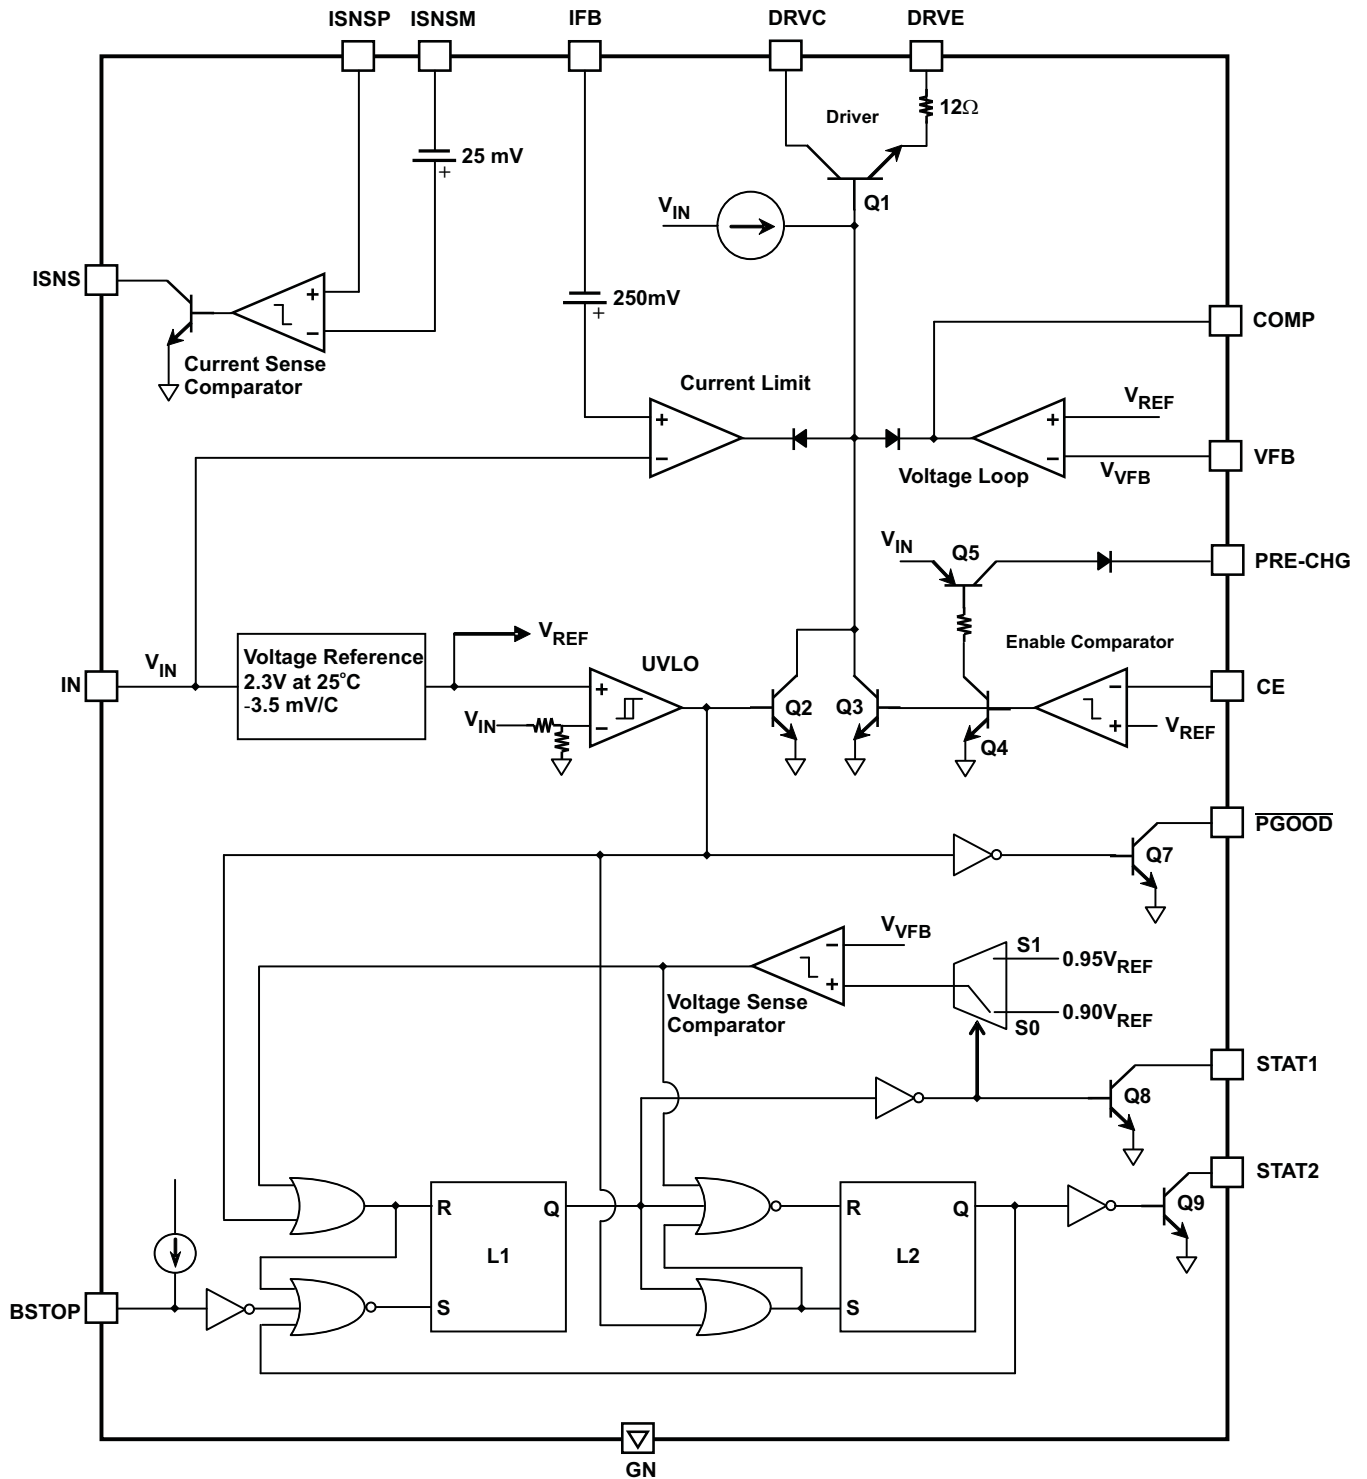
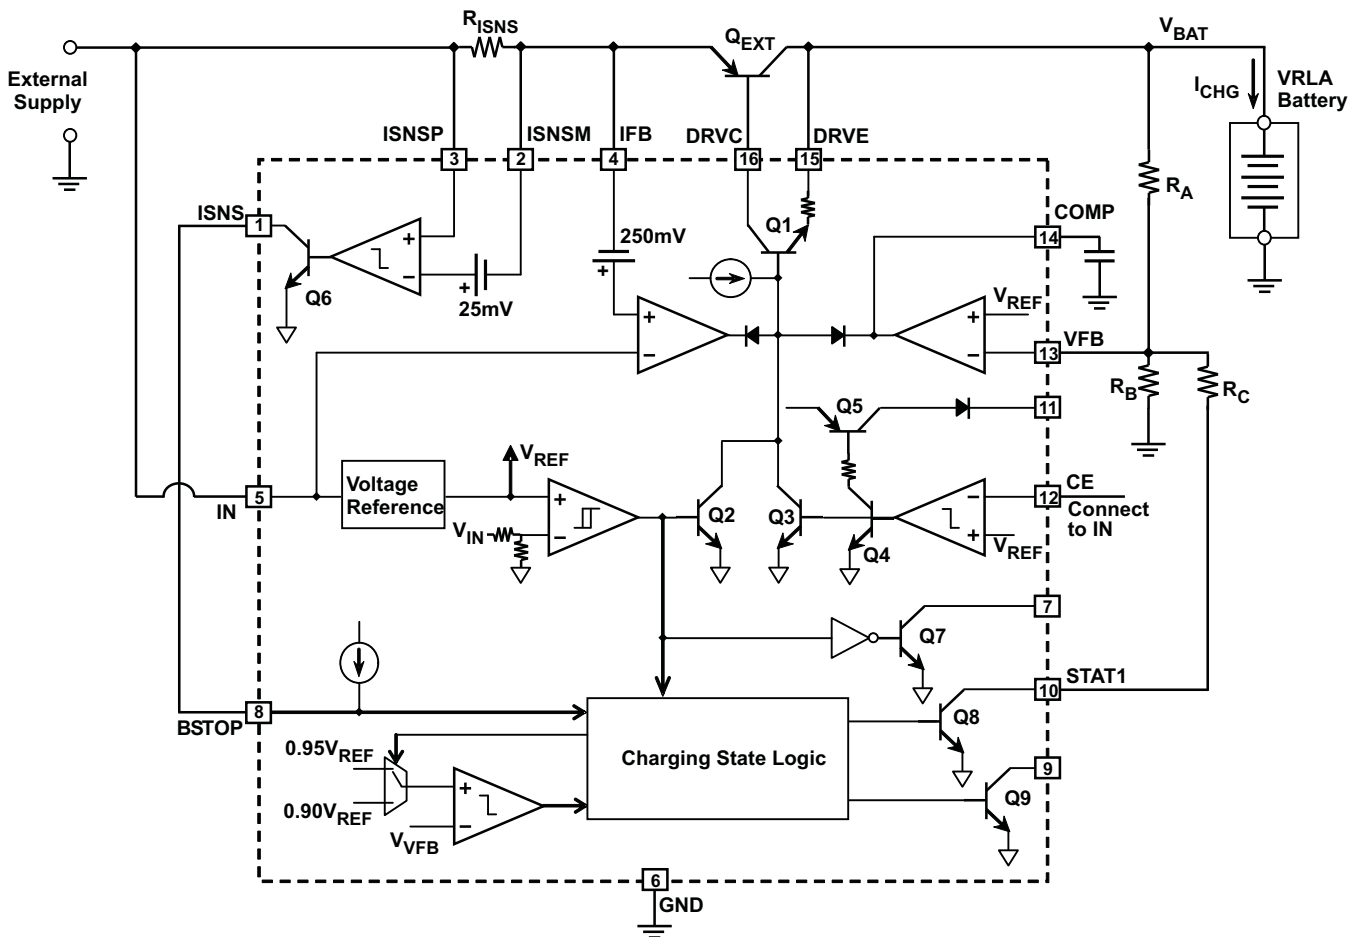
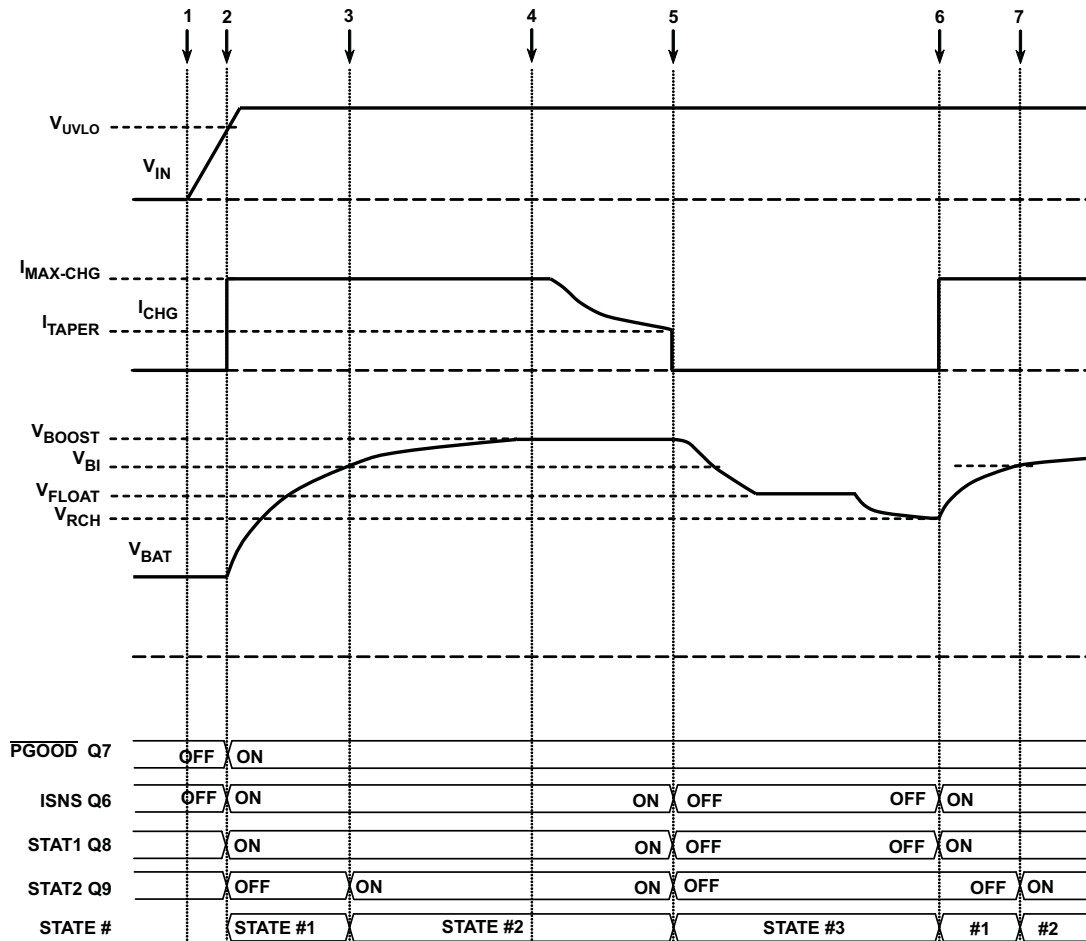

Figure 2. Simplified Block Diagram
Figure 4.
Figure 5.
Only an external pass transistor and minimum number of external passive components are required along with the IC to implement a charger for sealed lead-acid batteries. The IC's internal driver transistor Q1 (see Figure 2) supports NPN as well as PNP pass transistors, and provides enough drive current (25mA specified) to support a wide range of charging rates.
The driver transistor is controlled by a voltage regulating loop and a current limiting-limiting loop (see Figure 2). The current-limiting loop reduces drive when the voltage between the IN pin and the IFB pin increases towards  $V_{ILIM}$  (250mV typical). The voltage regulating loop tries to maintain the voltage on the VFB pin at  $V_{REF}$ . Together, these two loops constitute a current-limited precision constant-voltage system, which is the heart of any lead-acid charger. The voltage regulating amplifier needs an external compensation circuit which depends on the type of external pass transistor (see Application Information section).
An undervoltage lock-out circuit is also provided (see Figure 2). This circuit disables the driver transistor as long as the input voltage is below UVLO (4.5V typical). The UVLO circuit also drives an open-collector output PGOOD.
Figure 4 shows the bq24450 configured as a simple dual-level float-cum-boost charger. Figure 5 shows the sequence of events that occur in a normal charge cycle. At (1) in Figure 5, power is switched ON. As long as the input voltage  $V_{IN}$  is below the undervoltage lockout threshold UVLO, Q2 is ON, disabling the driver transistor Q1. As the input voltage  $V_{IN}$  ramps up and rises above UVLO Q2 turns OFF. This enables Q1 and thus the external transistor  $Q_{EXT}$ . At the same time, Q7 turns ON, latch L1 is forced to RESET and latch L2 is SET (see Figure 2 for the internals of the Charging State Logic).
As charging proceeds, the voltage at the VFB pin increases further to  $V_{REF}$ . At this point, the voltage regulating amplifier prevents the voltage at the VFB pin from rising further, maintaining the battery voltage at  $V_{BOOST}$ . [(4) in Figure 4].
As long as the peak load current is less than  $I_{MAX-CHG}$ , it will be supplied by  $Q_{EXT}$ , and the voltage across the battery will be maintained at  $V_{FLOAT}$ . But if the peak load current exceeds  $I_{MAX-CHG}$ , the battery will have to provide the excess current, and the battery terminal voltage will drop. Once it drops below  $0.9V_{REF}$ , at (6) in Figure 4, a new charge cycle is initiated. The battery voltage  $V_{BAT}$  at this point,  $V_{RCH}$ , is given by:
The problem with the charger circuit shown in Figure 4 is that even with deeply discharged batteries, charging starts at full current level  $I_{MAX-CHG}$ . This can sometimes be hazardous, resulting in out-gassing from the battery. The bq24450 can be configured to pre-charge the battery till the voltage levels rise to levels safe enough to permit charging at  $I_{MAX-CHG}$ .